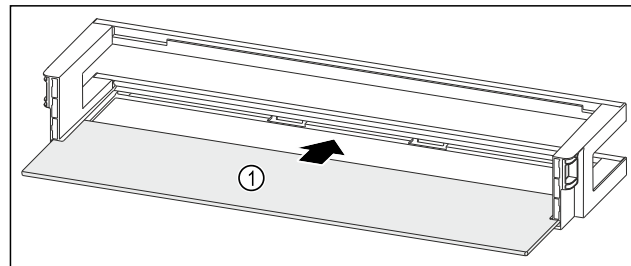

Fig. 88 Door racks with shelf
- Push the shelf Fig. 88 (1) into the side recesses.